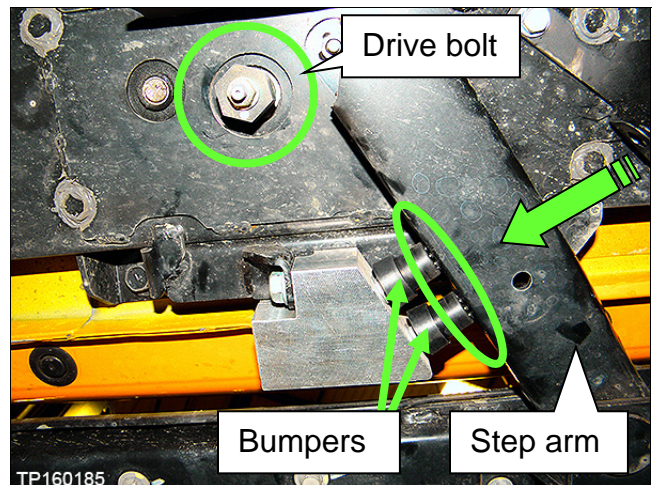

Figure 13
**NOTE:** If the step is in the extended position, it can be mechanically retracted. Manually rotate the drive bolt (Figure 13) to retract the step.